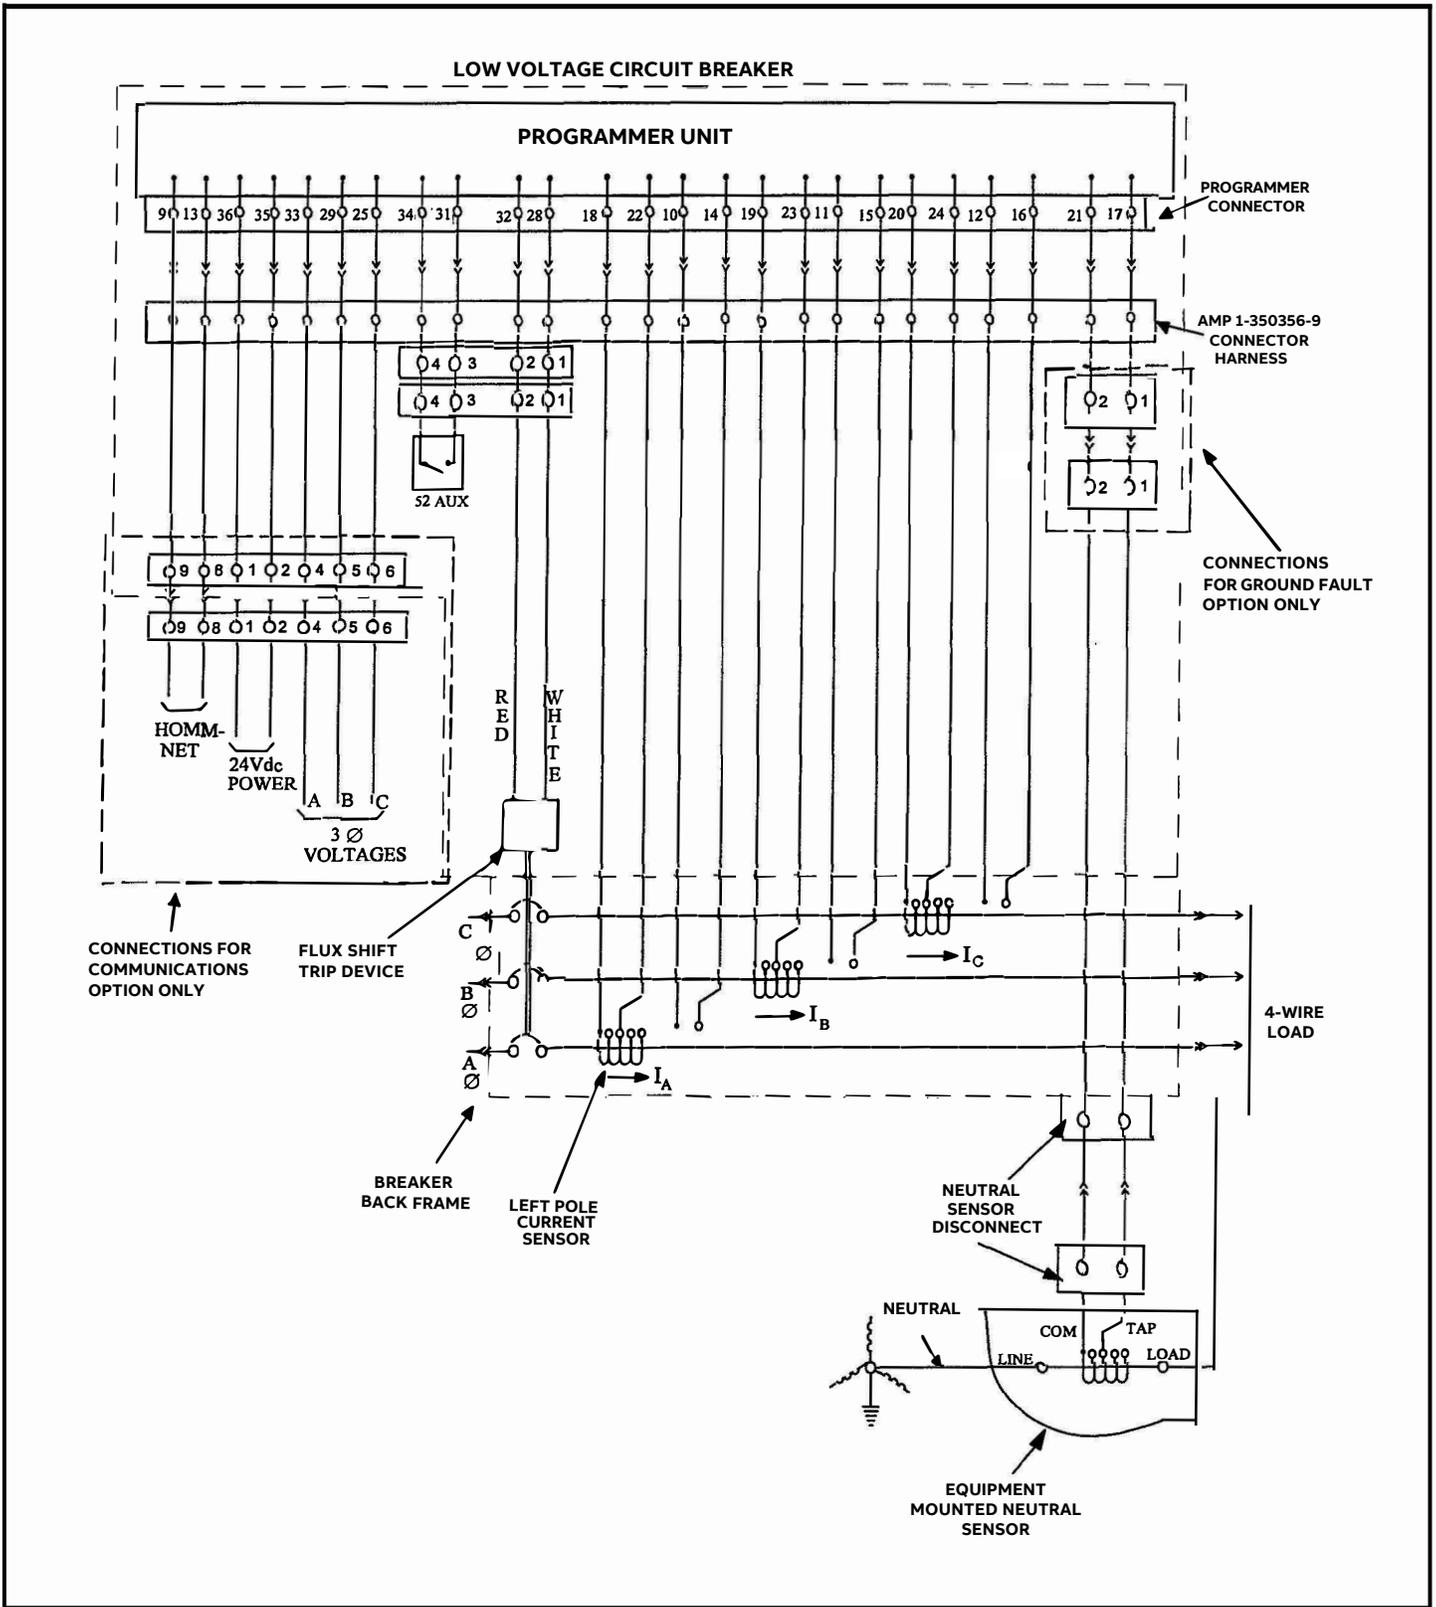

Figure 8-1. Cabling Diagram MicroVersaTrip Plus and PM With Ground Fault On 4-Wire Load
On ground fault breakers serving four-wire loads, check that the neutral sensor is properly connected. See cabling diagram Fig. 8-1. In particular, the following:
- C. If the breaker's lower studs connect to the supply source, then the neutral sensor must have its load end connected to the source. See Fig. 8-1.